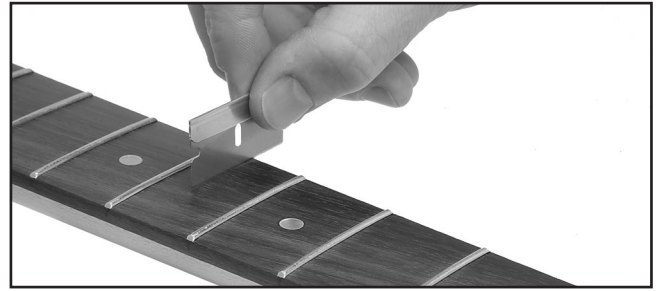

Figure 8. Scraping the fretboard.
6. Before wet sanding, remove the masking tape from the fretboard and carefully scrape any excess finish off the fretboard with a razor blade or chisel held perpendicular to the surface, as shown in **Figure 8**.